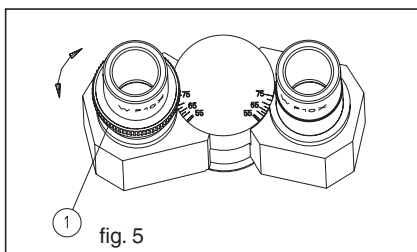

fig. 5
Put the specimen on the stage. Turn the 40X objective to working position. Firstly, observe at right column with right eye, adjust coarse-fine focusing knob to image clearly. Secondly, observe at left column with left eye, adjust the diopter control ① to image clearly.( Fig.5)